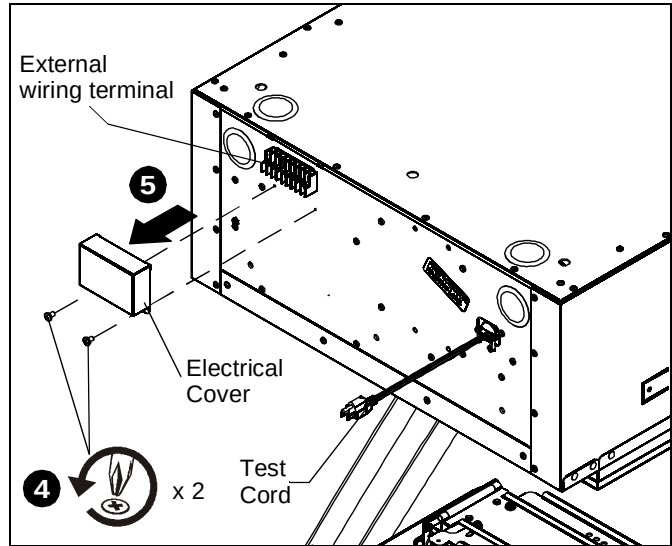

Figure 2
4. Remove and save two screws holding side electrical cover in place. (See Figure 2)
5. Remove electrical cover. (See Figure 2)
7. Plug in the SL236 test cord. (See Figure 2)
NOTE: (See Figure 2) for location of external wiring terminal.